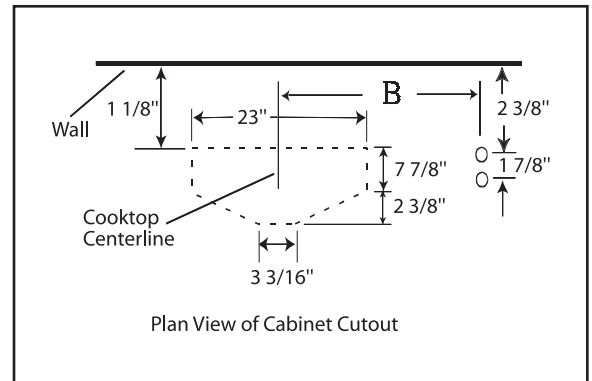

Figure 11 PHE
2. If the hood is installed for vertical discharge use Figure 11 to create clearance holes for passage of the transition and conduit. Dimension A in Figure 11 depends on the hood model being installed and can be located in the table above.